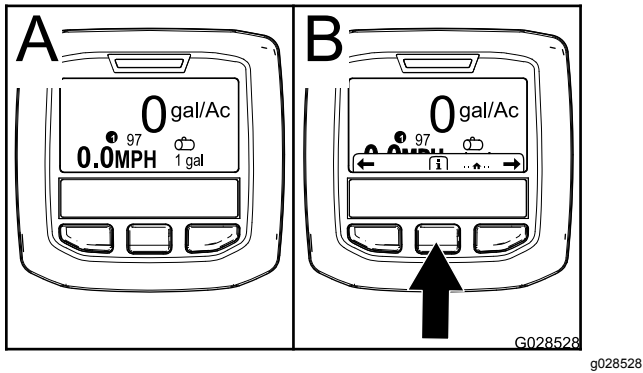

Figure 60
- After approximately 15 seconds, the home screen appears. Press the center selection button to display the information context (Figure 60).